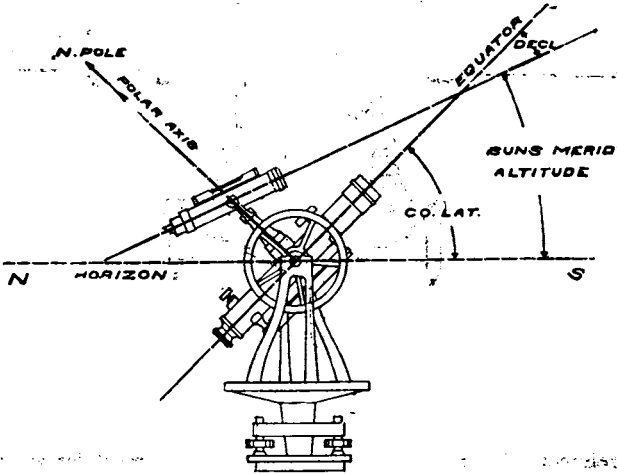

Fig. 3.
3. Without disturbing the relative positions of the two telescopes, elevate the transit telescope (and with it the solar) until the amount of the co-latitude is indicated by the vernier of the vertical circle. See Fig. 3.
Direct the transit telescope towards the south, incline it to an amount equal to the sun's meridian declination uncorrected for refraction, depressing the telescope if the declination is north and elevating it if it is south. Now bring the solar telescope into the vertical plane of the transit telescope and to a perfectly horizontal position by means of its level, then clamp it. A few minutes before apparent noon (the moment of the sun's culmination) bring the sun's image between the two horizontal wires of the solar telescope by moving *only* the *transit telescope* in altitude and azimuth. By means of the tangent screws of the transit, keep the sun, as it continues to rise and travel southwards, in this position relative to the cross hairs of the solar telescope. When it has ceased to rise, take the reading of the vertical arc of the transit, deduct from it the refraction due to this altitude, and the remainder is the co-latitude, which deducted from 90° gives the latitude. The position of the two telescopes is identical with that shown in Fig. 3